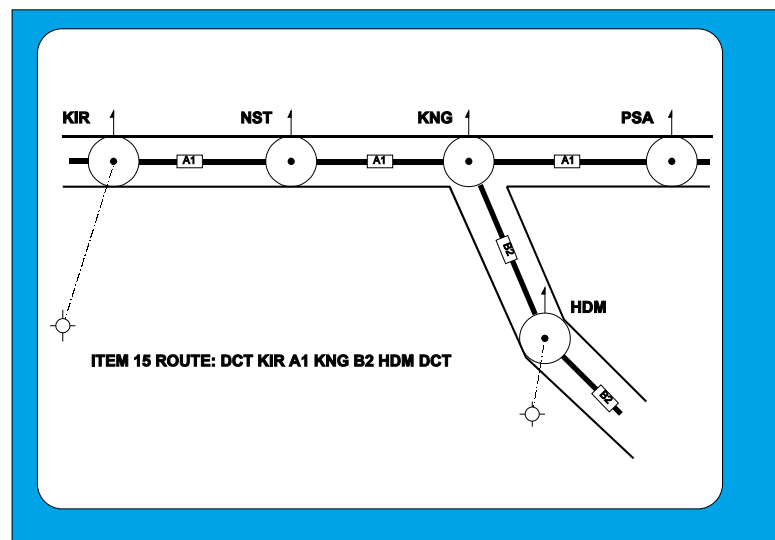

Figure 14.3 Use of DCT
- If the **destination airfield** is **not on** or **connected to** an ATS route the last entry will be **DCT**. (Figure 14.3)